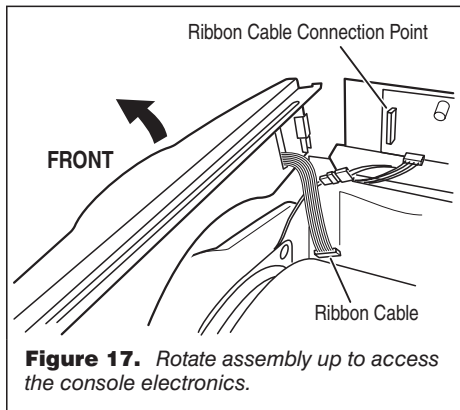

Figure 17. Rotate assembly up to access the console electronics.
1. Perform steps 1 and 2 under Accessing & Removing the Electronic Assemblies, page 7, then disconnect the ribbon cables that run between the console and the machine control board. Make the disconnection at the machine control side. Remove the two screws that fasten the console assembly to dryer, then remove the console assembly, sliding it up and off from the front of the machine. See figure 17.